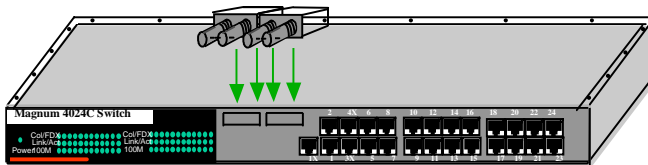

Figure 3.4.2b: Inserting PM Modules into a Magnum 4K24F
Step 3. Be sure the pins are precisely aligned with the holes in the header, and the FKM front panel is guided into the front slot cut-out. Then, slowly and carefully apply just enough pressure to insert the FKM module socket into position, see Figure 3.4.2b. (If you force the FKM down when the pins are not properly aligned with the holes in the header, the pins may become bent and the FKM damaged accordingly).